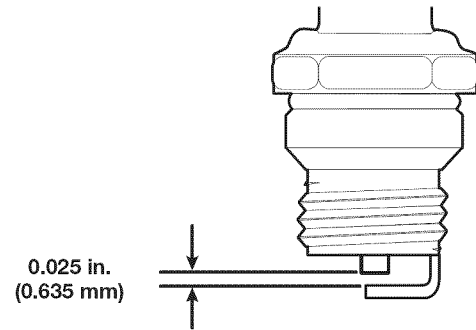

Fig. 9
4. Use a feeler gauge to set the air gap at **0.025 in. (0.635 mm)** (Fig. 9).